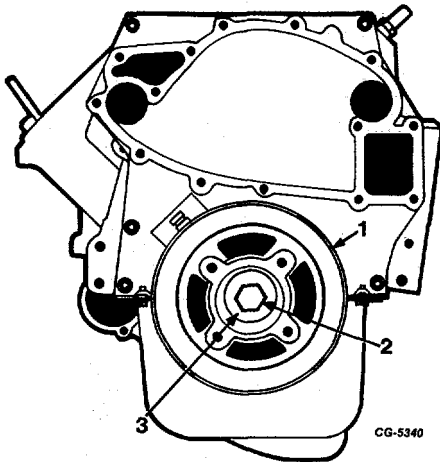

Fig 47
52. Remove crankshaft damper bolt and washer. Figure 47.